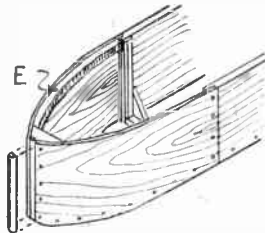

Fig. 3—Further details of the bow
Now saw away the surplus portions of stem, and upright strips of the frames, level all round with the sides and stem. It may be added here that all screws used should be of brass, and the nails copper. Plane the front edges of the plywood level with the edge of the stem post, to leave a 'flat'. The appearance of the forward ends of the boat will then be as shown in Fig. 3, which will help to make the details clear.
are to be bent round, and screwed to the plywood on the inside, to make the ply approximately level with the inside face of the sides of the boat. These extend between where the ply joins the sides to where it is screwed to the stem, as shown at (E) in Fig. 3. A strip of wood $\frac{3}{8}$ in. square and 12ins. long is to be screwed to the stem to cover the cut edges of the plywood. Its outer edges are planed to a curve. This also is shown in Fig. 3. Screw it temporarily, as it has to be removed when the covering is